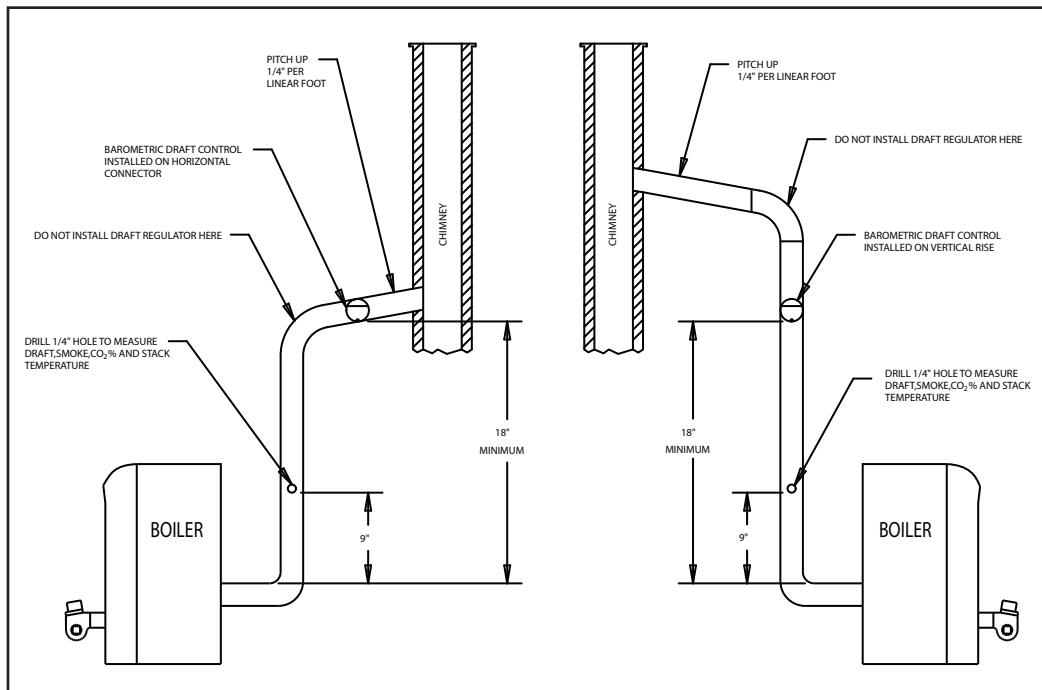

Figure 2.
- F. Flue Connection: Connect flue pipe between back of boiler and chimney. Horizontal sections of flue pipe must be pitched upward to the chimney at least 1/4" per foot. Flue must be inserted into, but not extend beyond, the inside wall of the chimney flue. Draft regulator is not required but may be installed if conditions warrant it. Install draft regulator in flue pipe, as shown in figure 2.
- B. The observation port cover is mounted on the hinged burner mounting door (see figure 2 on page 2). NEVER touch the port cover or any surrounding surfaces with hands. It may be HOT. See the burner instructions for bleeding air, etc. Step away from the boiler and start the oil burner.